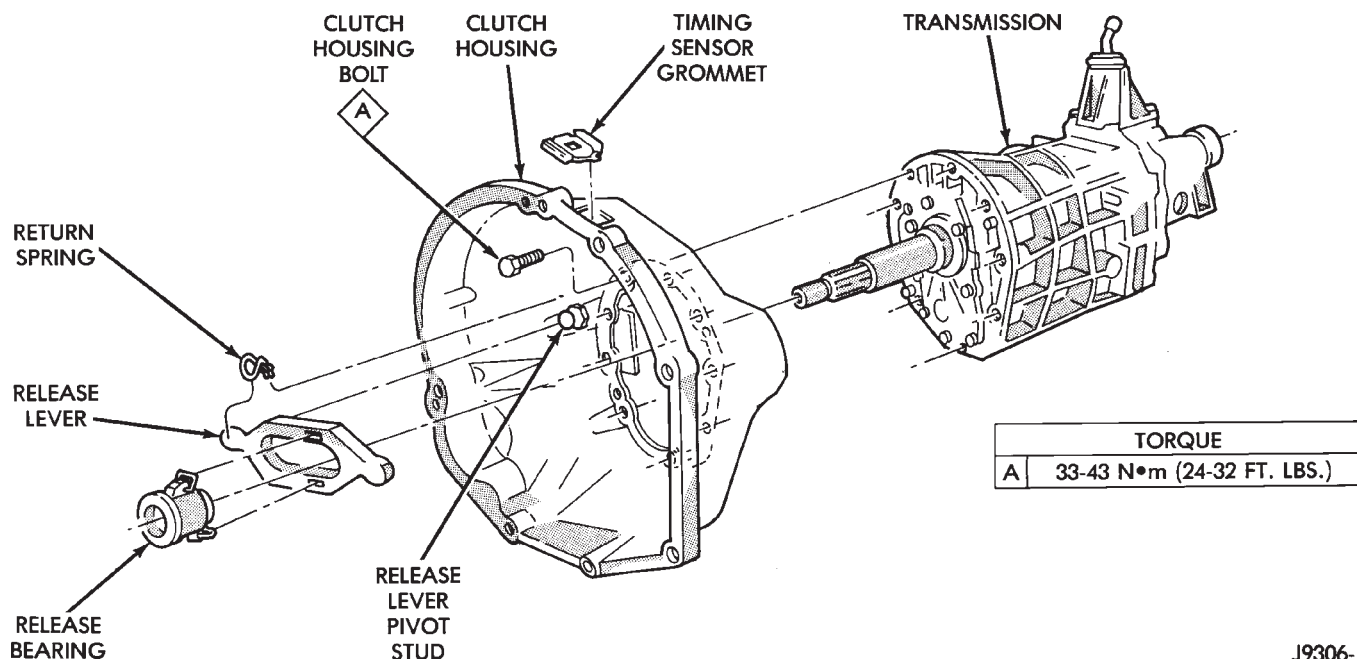

Fig. 5 Clutch Housing And Release Bearing Attachment
(2) Remove release bearing, release lever and boot and lever pivot ball stud from clutch housing (Fig. 5).
(3) Remove clutch housing attaching bolts and remove housing from transmission (Fig. 5).
(1) Remove transmission and clutch housing as an assembly.
(2) Disconnect release bearing from the fork and remove bearing (Fig. 5).
(3) Inspect bearing slide surface of transmission front bearing retainer. Replace retainer if slide surface is scored, worn, or cracked.
(4) Inspect release fork and fork pivot. Be sure pivot is secure and in good condition. Be sure fork is not distorted or worn. Replace release fork retainer spring if bent or damaged in any way.
(5) Lightly lubricate crankshaft pilot bushing, input shaft splines, bearing retainer slide surface, fork pivot and release fork pivot surface with Mopar high temperature grease.
(6) Install release fork and new release bearing. Be sure fork and bearing are properly secured.
(7) Install transmission and clutch housing as assembly.